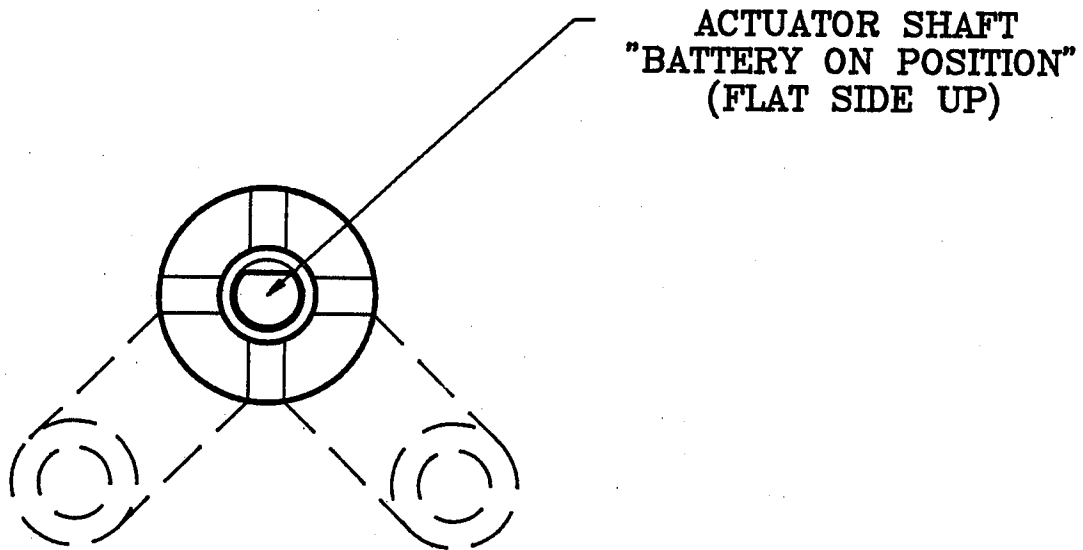

FIGURE 5.1
- 1) Remove the cotter pin which secures the coupler to the actuator shaft. Rotate the actuator shaft 180 degrees so that the flat side is facing up. This will activate a micro switch which will energize the battery.) (See Figure 5.1) Carefully install the split pin in place of the cotter pin.